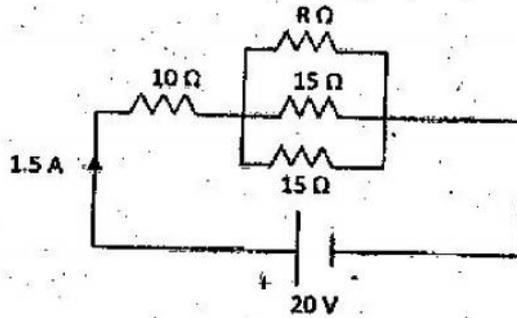

Fig. 1
11. (a) (i) For the circuit shown in Fig.1, calculate the value of resistor R , when then total current taken by the network is 1.5 A (8)